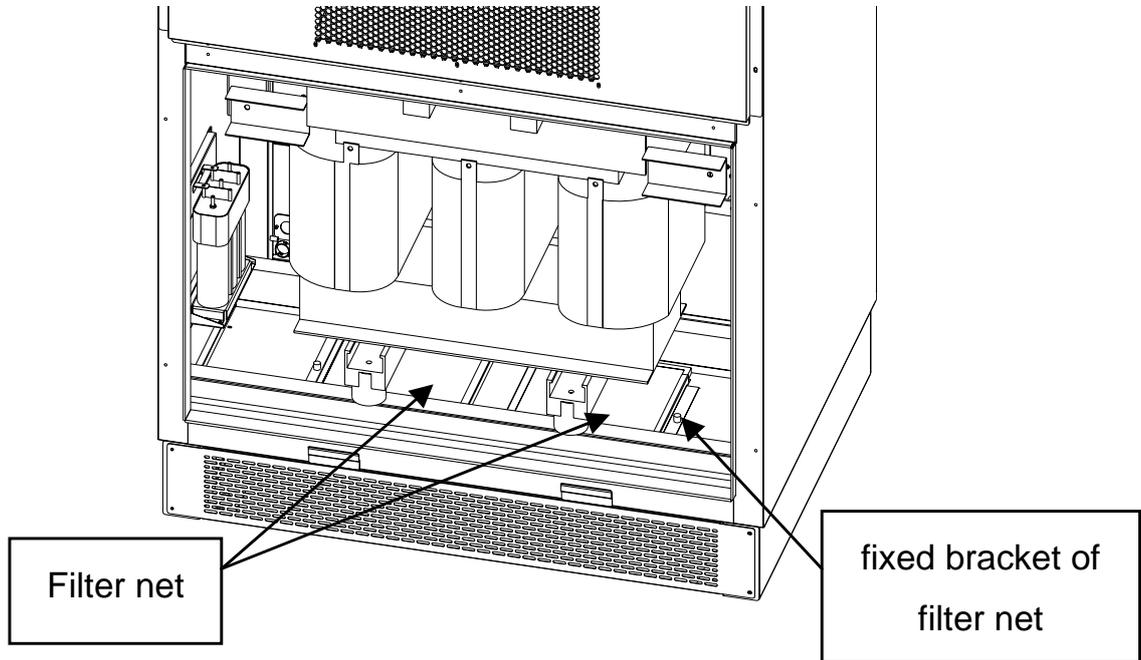

Figure 5-12 Diagram of filter net disassembly (internal)
- (3) Screw off the fixed bracket of filter net and take out the filter net at the bottom of the transformer, as shown in Figure 5-12.